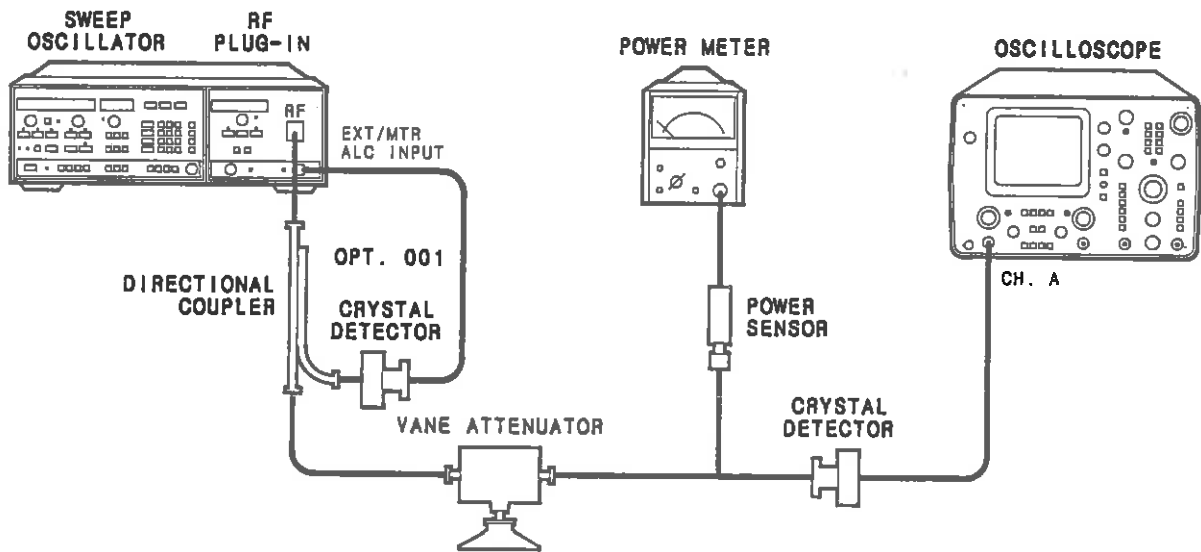

Figure 5-12. Internal Levelled Flatness Adjustment Setup
1. Remove the A5 FM Driver Assembly from the RF plug-in. Set the vane attenuator to 14 dB. Connect the power meter and sensor through the vane attenuator to the RF plug-in as shown in figure 5-12.
11. Replace the A5 FM Driver Assembly in the RF plug-in. Connect the equipment shown in figure 5-12 with the crystal detector/oscilloscope monitoring the RF output. On the sweep oscillator, press: